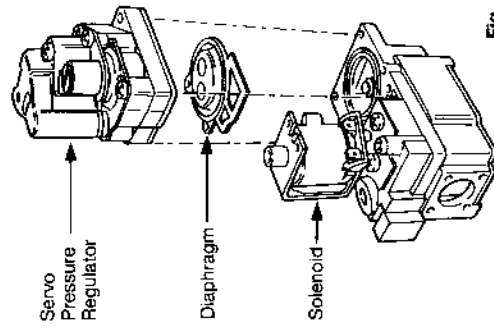

Fig. 35
- 8.12.9 Servo Pressure Regulator (fig 35)**